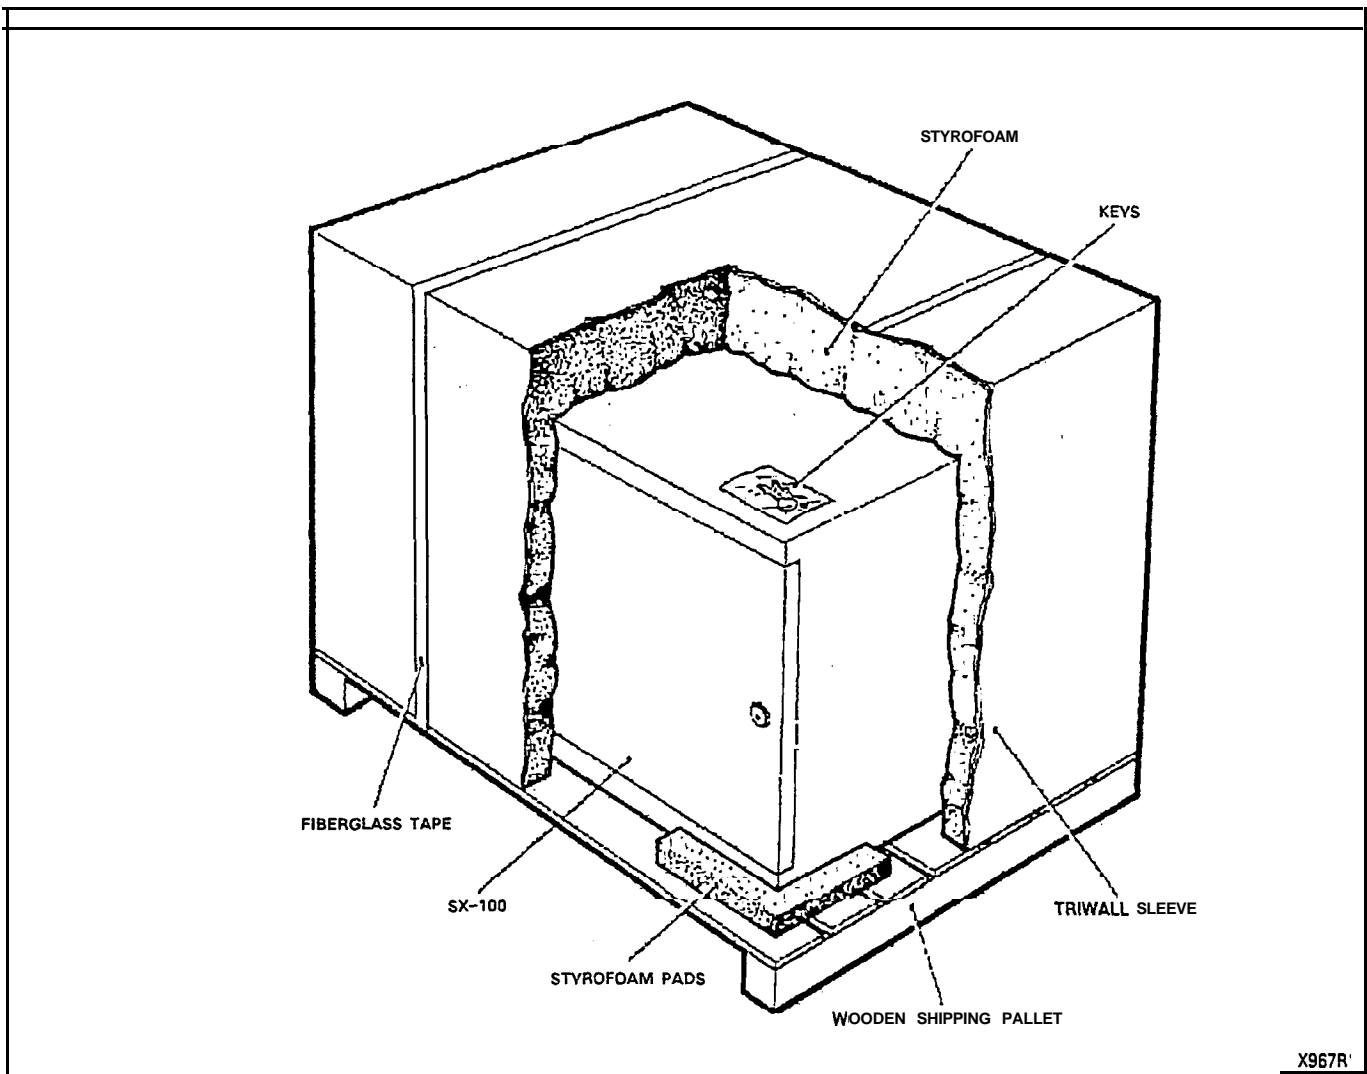

Figure 4-1 SX-100 System Packaging
4.01 The equipment is shipped complete with one shelf and with some cards in position. The equipment cabinet is enclosed in a polyethylene sheet and positioned on the shock-absorbant shipping pallet. A Styrofoam sheet is placed around and on top of the cabinet to protect it from damage, and the complete assembly is encased in a triwall sleeve. Four transportation straps are then fastened to the pallet to prevent any movement of the cabinet package. The triwall cap is placed over the sleeve and the complete assembly is secured to the shipping pallet by two metal retaining straps. Figures 4-1 and 4-2 respectively, show the packaging arrangements for the SX-100 and **SX-200** systems.
8.01 When the PABX equipment is shipped from one location to another, all items must be packaged to prevent damage. Figures 4-1 through 4-5 show how the equipment was originally packaged. This method of packaging should be followed as closely as possible.